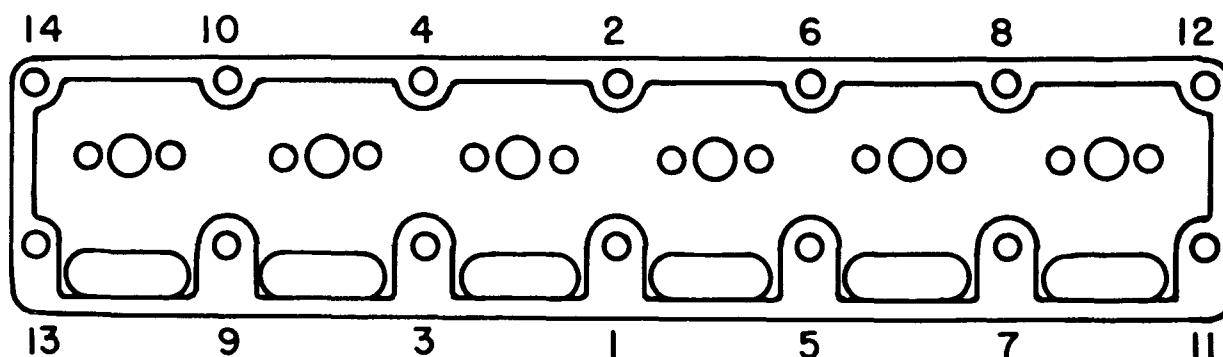

Fig. 3-34. Sequence for tightening cylinder head capscrews
3. Tighten all cylinder head capscrews or stud nuts in sequence (Fig. 3-34) to torque values shown below.